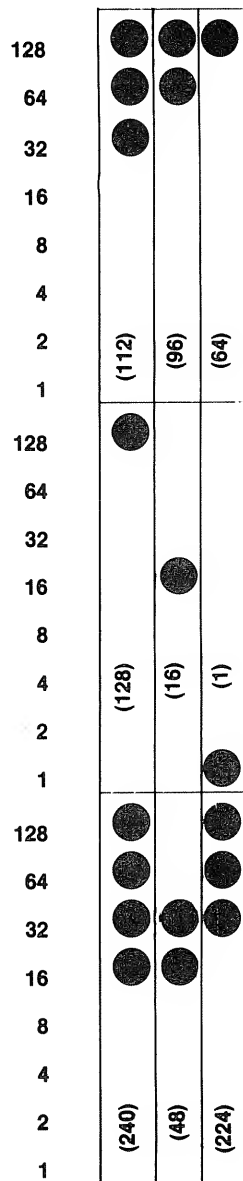

Figure 12-15. DMP-2100 High-Resolution Printing
The CHR\$(MM) and CHR\$(LL) are similar to the dot-column position sequence for normal graphics or text—the MM in this case, however, is *high order* value for the *point-column length*, and the LL is the *low order* value. The *point column* is the dot column times three, because there are three horizontal points for every horizontal dot, as shown in Figure 12-15. Note that the *point column length* is different from the *point-column position*. This will be the actual number of point columns printed for the graphics, as shown in the figure. The MM and LL values are computed the same way as for the dot-column values—the point-column number is divided by 256, with the remainder going to LL, and the quotient going to MM. A total of 1000 point columns, for example, would use an MM value of 3 (1000/256 is a quotient of 3), and an LL value of 232 (1000/256 = 3, remainder of 232).